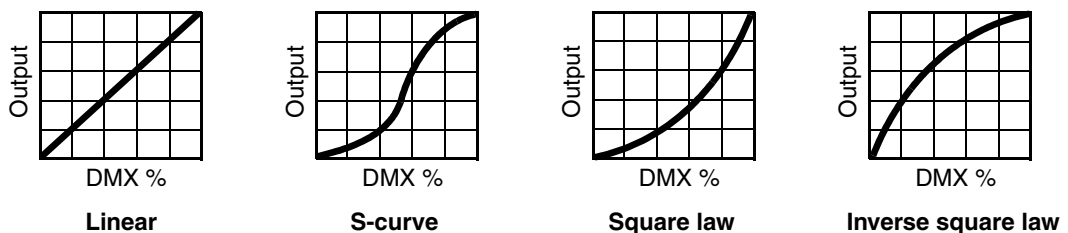

Figure 6: Dimming curve options
- **DIMMER CURVE** provides four dimming options (see Figure 6) that you can scroll through in the selection pane: